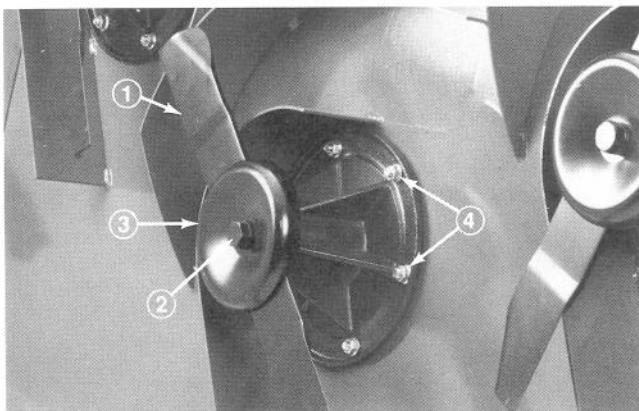

Figure 57
2. Using a rag or thickly padded glove, grasp end of blade. Remove blade bolt, lockwasher, anti-scalp cup and blade from spindle assembly (Fig. 57).